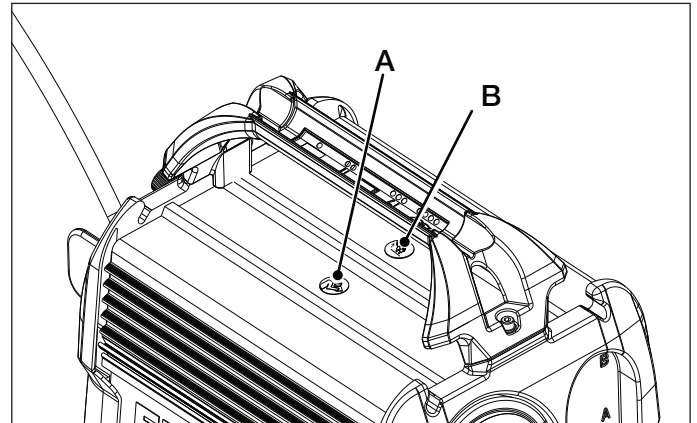

Figure 1, Locations of Safety Hazard Alert Symbols
**Read Instructions:** Read the product instruction sheet before operating the product and before performing any inspection, adjustment, maintenance or repair procedures. (Figure 1, item A)
**Disconnect Electrical Power:** To avoid the possibility of a dangerous and potentially lethal electrical shock, disconnect pump power cord from AC electrical power supply before opening the pump case. (Figure 1, Item B)
Make sure the safety hazard alert symbols are legible and securely affixed to the pump. If worn or missing, obtain replacements from Enerpac. Refer to Figure 1 for locations